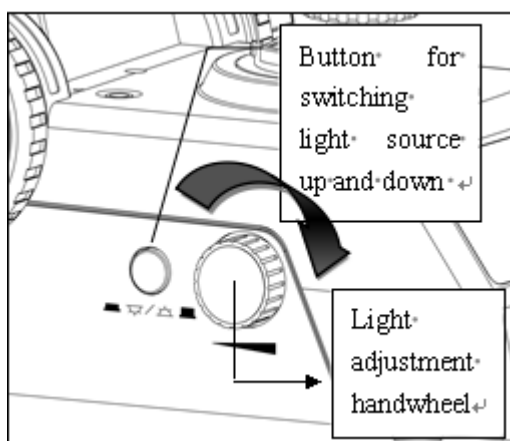

Fig 2
3.2 Adjust Lighting And Switch Light Source (fig 2)
1. Rotating the handwheel according to the direction indicated by an arrow on the figure 2, the brightness will increase. If not, brightness will reduce.
2. As shown in figure 2, when the light switch button is push-in, the light on the top is opening, as picture  . When the light switch button is push-out, the light on the bottom is opening, as picture .